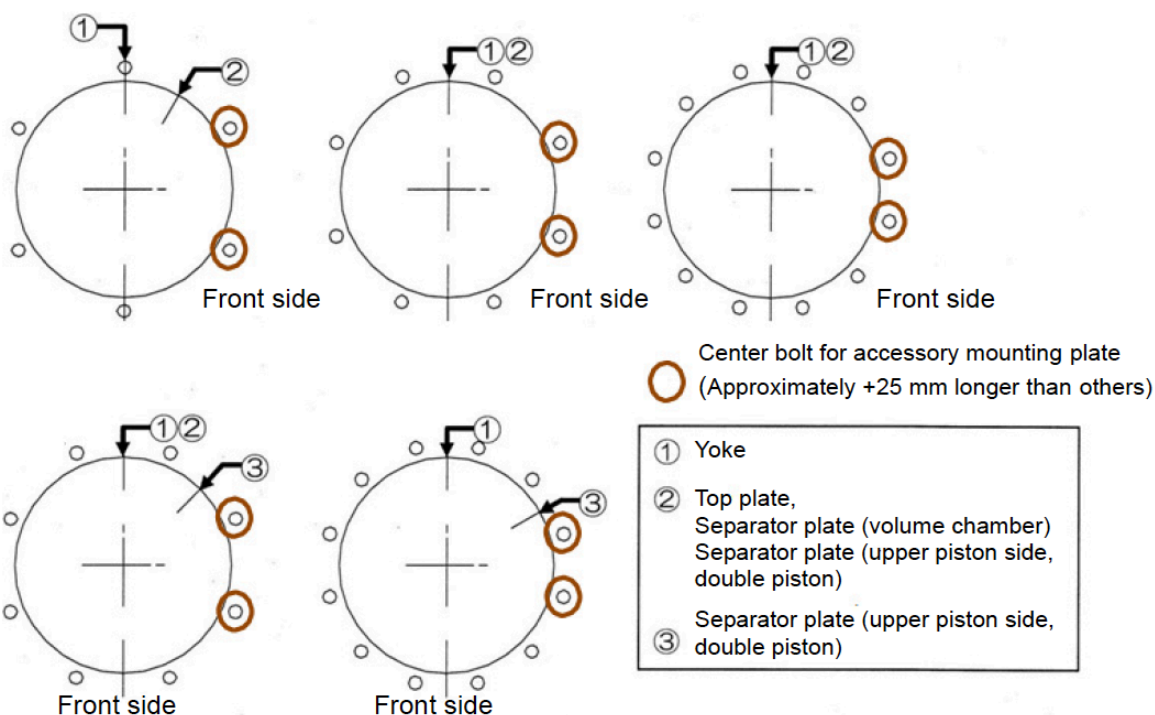

Figure 19 - Center Bolt Positioning
- Ensure the positions of the air connections are correct. Insert the Center Bolts into the holes of the Top Plate and Yoke. Mount the Spring Washers and Nuts and tighten them lightly by hand. Mount the Spring Washers and Nuts to the bottom side of the Yoke by hand. Ensure that the position of Center Bolts (Approximately +25 mm longer than others) for the accessory mounting plate, if equipped, complies with Figure 19.